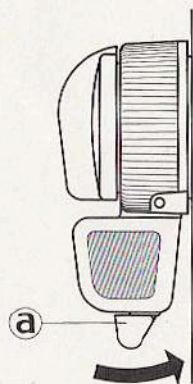
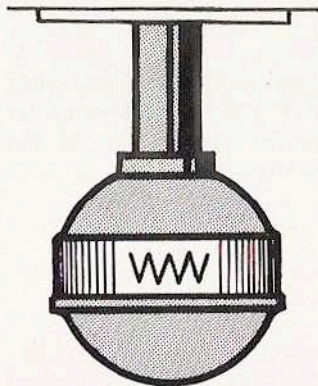

Fig. 29
Fig. 31
4. The stitch length lever 15 (Fig. 28) has two marks on its ball-shaped end, the zig-zag mark Fig. 31 and the buttonhole mark Fig. 32.
Push lever a (Fig. 28) forwards into the position in Fig. 29. The zig-zag lever 12a can now be moved as desired beyond the stops I and II from 0 to 4. Move lever 13 into the vertical position. Again press the stitch length lever 15 towards the machine, the ball-shaped end turned to the left until the zig-zag mark (Fig. 31) until the zig-zag mark shows on top.
2. the stitch length lever, i. e. its ball-shaped end, shows the zigzag mark (Fig. 31);